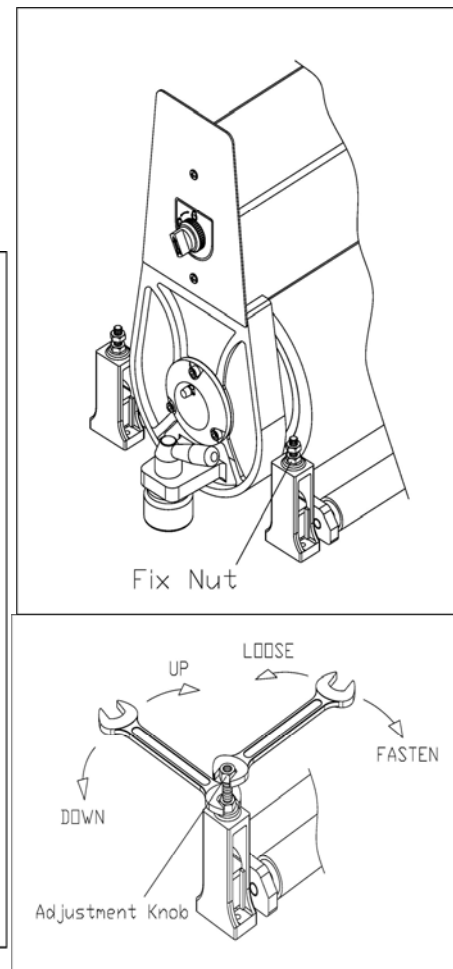

Figure 14
4. Loosen the fix nut then turn the adjustment knob as shown in **Figure 14**.